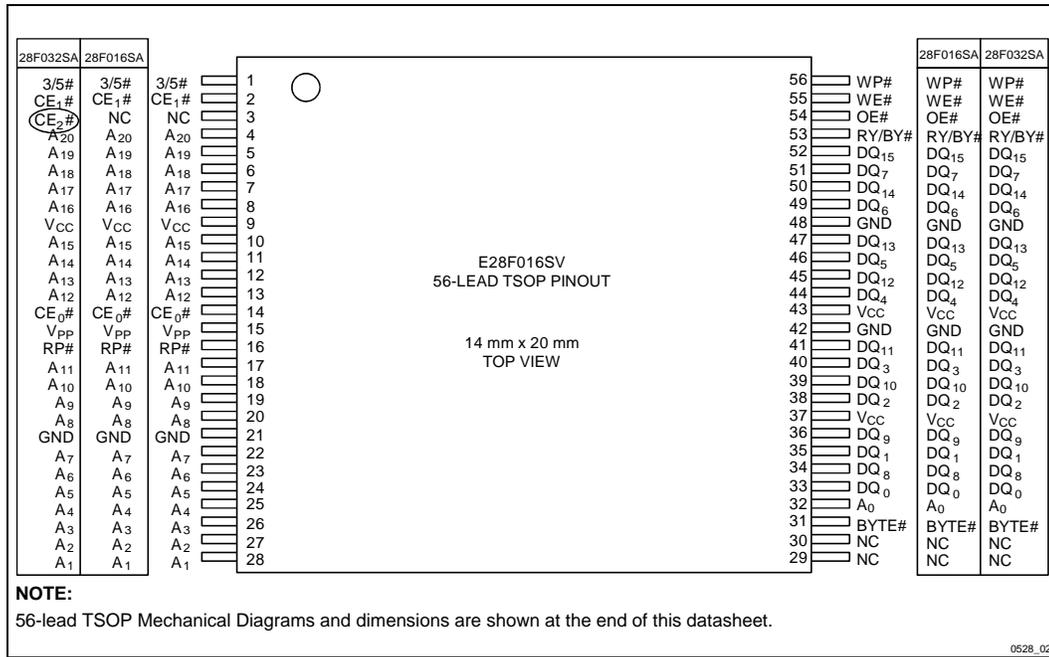

Figure 2. 28F016SV 56-Lead TSOP Pinout Configuration Shows Compatibility with 28F016SA/28F032SA
-004	<p>Added 3/5# pin to Block Diagram (Figure 1), Pinout Configurations (Figures 2 and 3), Product Overview (Section 1.1) and Lead Descriptions (Section 2.1)</p> <p>Added 3/5# pin to Test Conditions of I_{CCS} Specifications</p> <p>Added 3/5# pin (Y) to Timing Nomenclature (Section 5.5)</p> <p>Increased t_{PHQV} Specifications at 5V V_{CC} to 400 ns for E28F016SV 065 devices and 480 ns for E28F106SV 070 devices.</p> <p>Modified Power-Up and Reset Timings (Section 5.9) to include 3/5# pin: Removed t_{5VPH} and t_{3VPH} specifications; Added t_{PLYL}, t_{PLYH}, t_{YLPH}, and t_{YHPH} specifications</p> <p>Added t_{PHL3} and t_{PHL5} specifications to Power-Up and Reset Timings (Section 5.9)</p> <p>Corrected TSOP Mechanical Specification A₁ from 0.50 mm to 0.050 mm (Section 6.0)</p> <p>Corrected SSOP Mechanical Spec. B (max) from 0.20 mm to 0.40 mm (Section 6.0)</p> <p>Minor cosmetic changes throughout document.</p>
A significant 28F016SV change occurred between datasheet revisions 290528-003 and 290528-004. This change centers around the addition of a 3/5# pin to the device's pinout configuration. Figures 2 and 3 show the 3/5# pin assignment for TSOP and SSOP Type 1 packages. Intel recommends that all customers obtain the latest revisions of 28F016SV documentation.
The 28F016SV 56-lead TSOP and 56-lead SSOP Type I pinout configurations are shown in Figures 2 and 3.